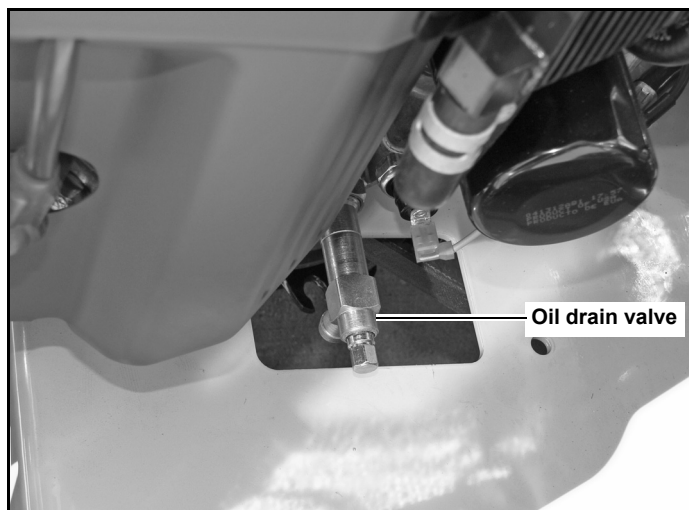

Figure 4-7
1. Locate the oil drain valve on the engine. Figure 4-7,